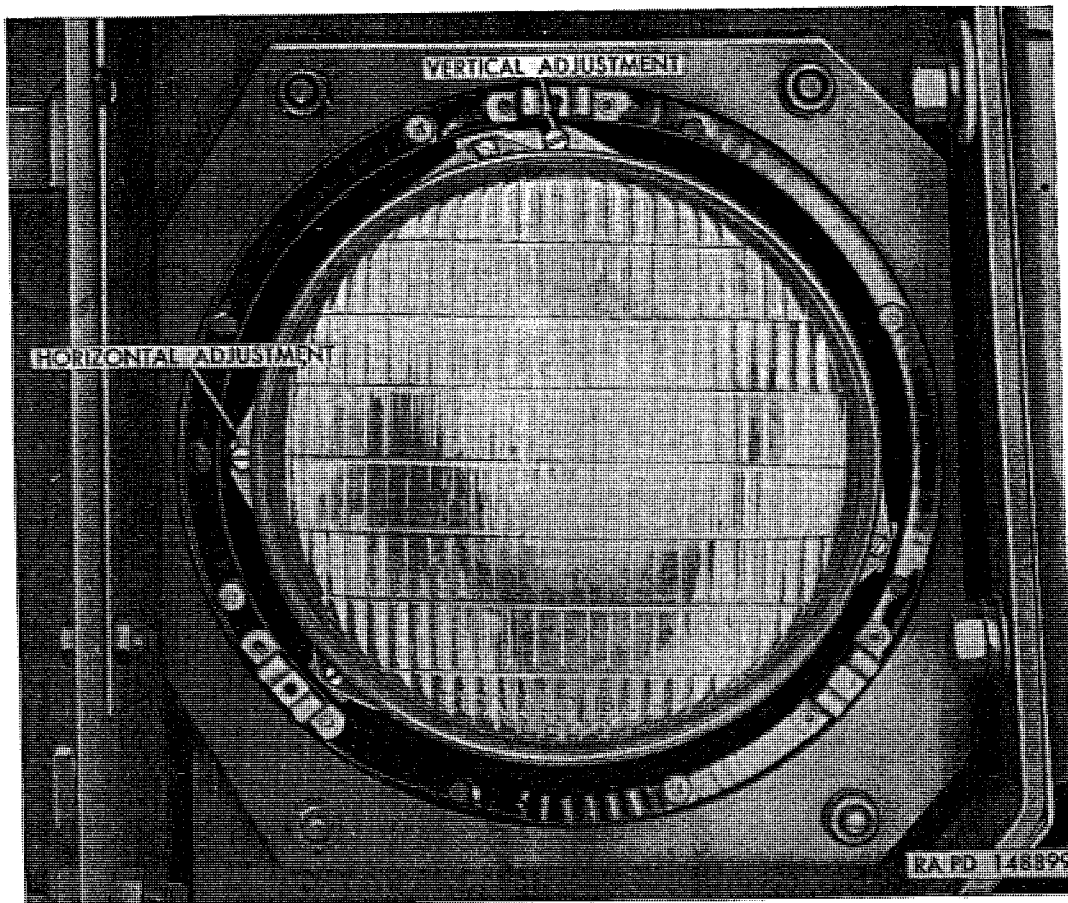
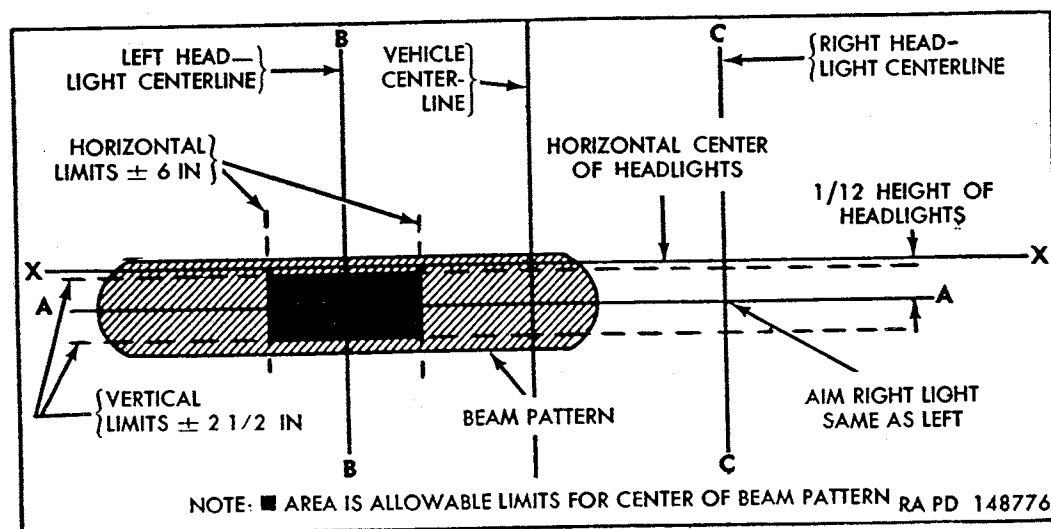

Figure 159. Headlight beam adjusting screws.
Figure 160. Headlight beam pattern.
- (e) Cover one headlight while adjusting the other. Aim light beam with two adjusting screws (fig. 159). Top screw provides vertical adjustment and side screw provides horizontal adjustment. Turn adjusting screws as necessary to obtain a beam pattern as near as possible to that shown in figure 160.